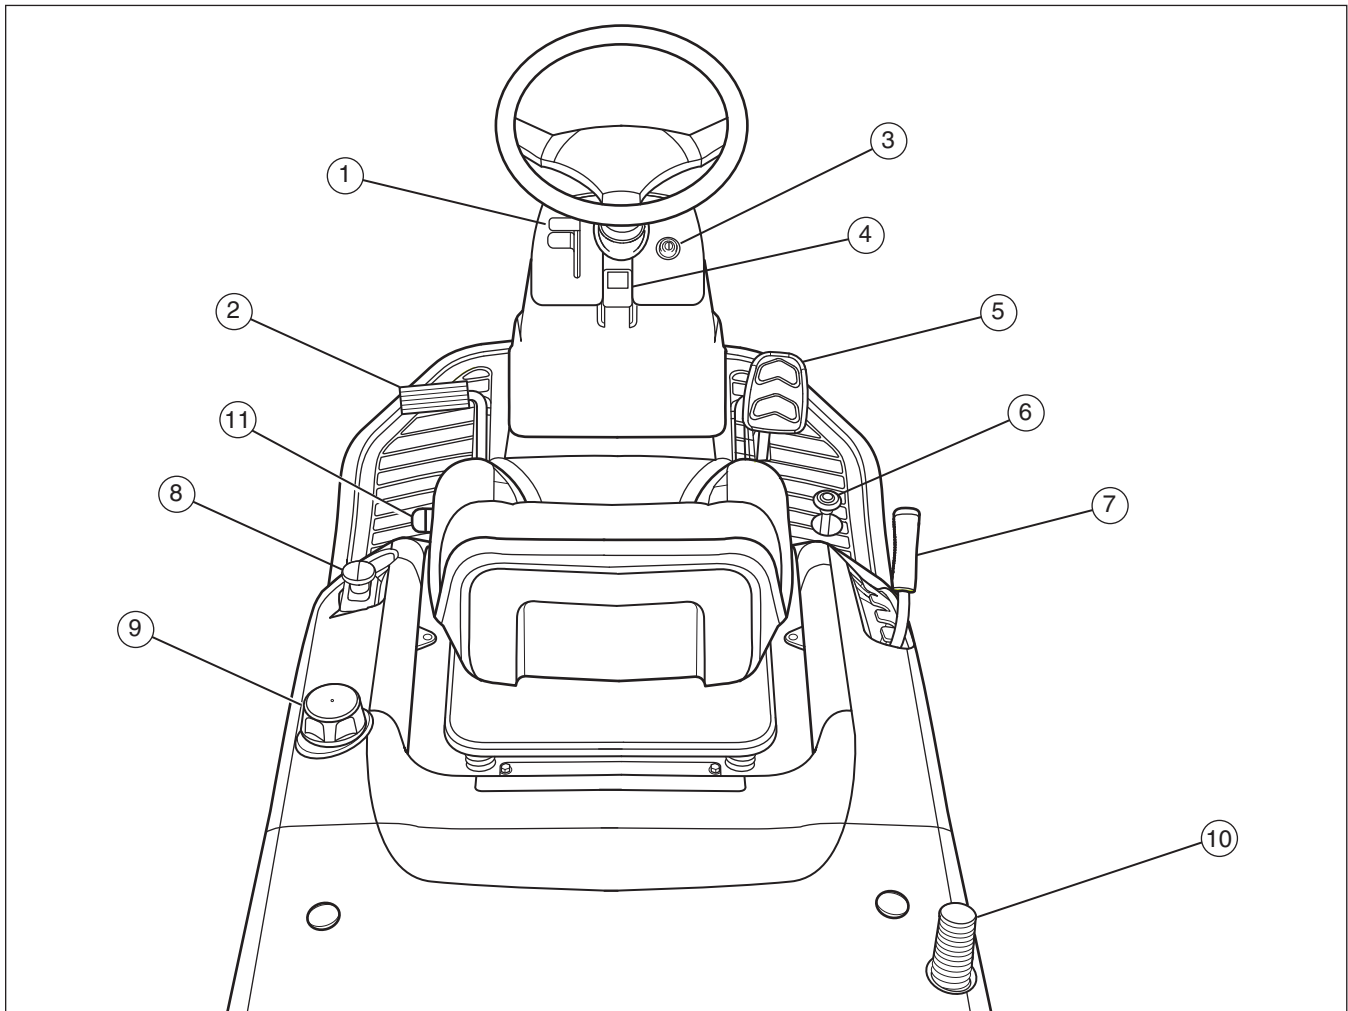

Figure 7
**Throttle Control Lever (1):** Use the throttle control lever to increase or decrease engine speed (see **Figure 7**). Move the throttle up to increase engine speed and down to decrease engine speed. Always operate at FULL throttle.
**Clutch/Brake Pedal (2):** The pedal has two functions. The first function is a clutch. The second function is a brake.
**Ignition Switch (3):** Use the ignition switch to start and stop the engine. Never leave the ignition switch in the RUN position with the engine stopped. This drains the battery.
**Parking Brake Knob (4):** The parking brake knob is used to lock the parking brake when the tractor is stopped. Fully depress the brake pedal and pull up on the knob to engage the parking brake.
**Forward Speed Control Pedal (5):** The tractor's forward ground speed is controlled by the forward speed control pedal. Depress the pedal to increase forward ground speed.
**Reverse Speed Control Pedal (6):** Use the reverse ground speed pedal to control the reverse ground speed of the tractor.
**Lift Lever (7):** The lift lever controls the mower cutting height. There are six cutting height levels available (1 - Lowest Cut, 6 - Highest Cut).
**Blade Rotation Control (8):** Use the blade rotation control to start and stop the rotation of the blade. Pull up on the switch to engage the blade rotation control and push down to disengage.
**Fuel Tank (9):** To add fuel, remove the filler cap. Be sure to leave room for heat expansion.
**Grass Bagger Handle (10):** The grass bagger handle opens the bagger so that it can be emptied and closed for mowing.
**Seat Adjustment Lever (11):** Pull up on the lever to adjust the location of the seat. Release lever to lock seat in place.